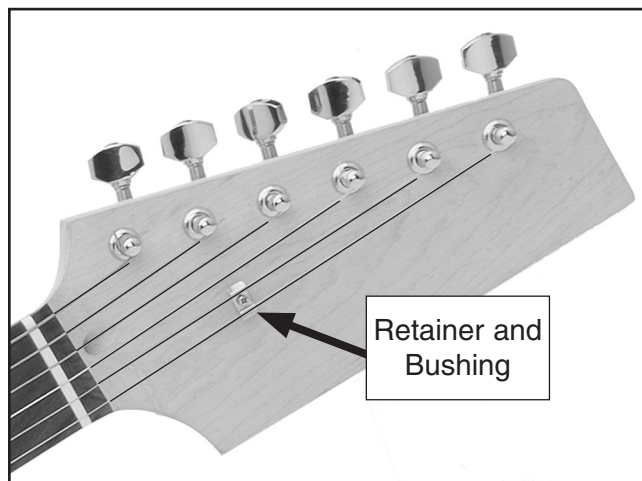

Figure 30. String retainer locations.
The string retainer mounts between the 1st and 2nd strings (**Figure 30**).
3. Slide a #2 x $\frac{3}{8}$ " screw through a retainer and small bushing, and fasten it to the back hole on the headstock (**Figure 30**).